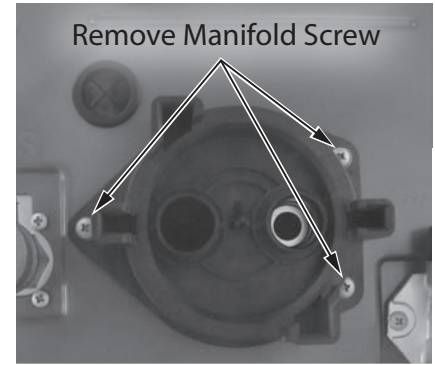

Figure 244 - Remove manifold screws
16 Locate the three (3) screws securing the cartridge manifold to the underside of the water heater cabinet as shown in Figure 244. Use a Phillips screwdriver to remove screws. Place screws aside in a safe place for reinstallation.